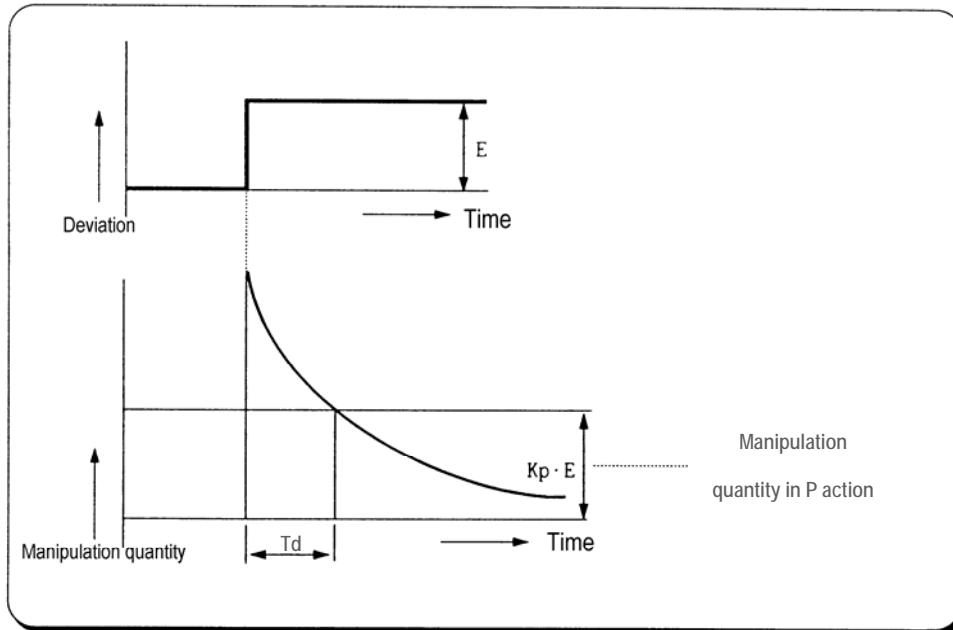

Fig. 7.6 Derivative action with a constant deviation
- ⑤ The D action when a constant deviation occurred is shown as Fig. 7.6